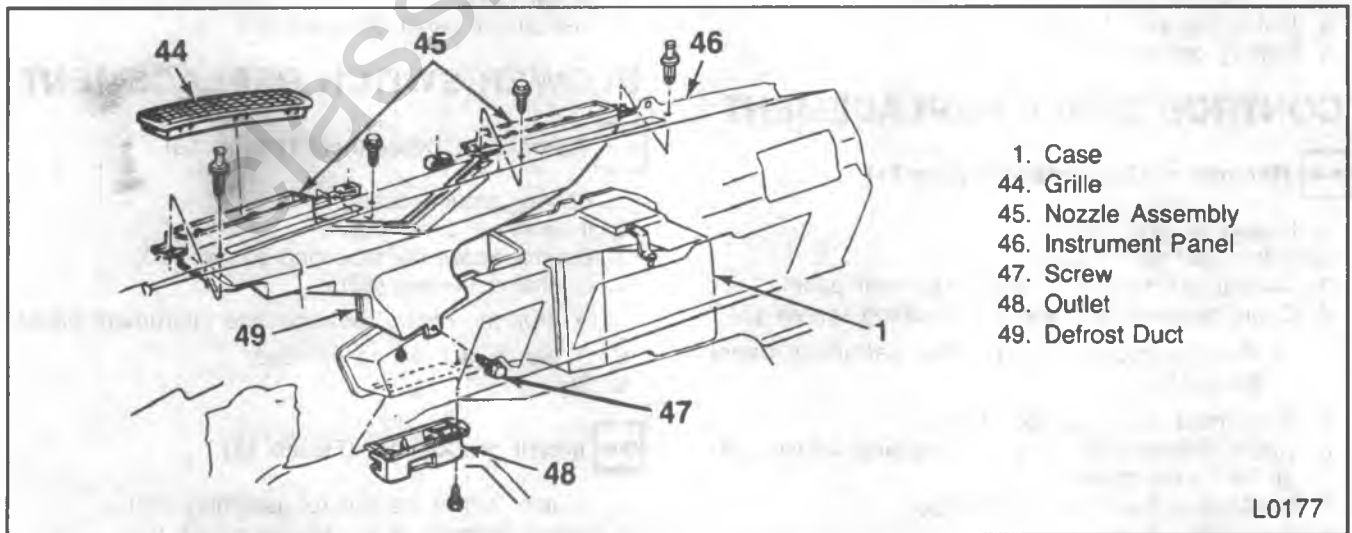

Figure 12—Floor and Defroster Vents
- 6. Floor outlet (37).
- 7. Screw (47) that holds the defroster duct to the heater distributor (figure 12).
- 10. Heater case (24).
- 12. Core (20).